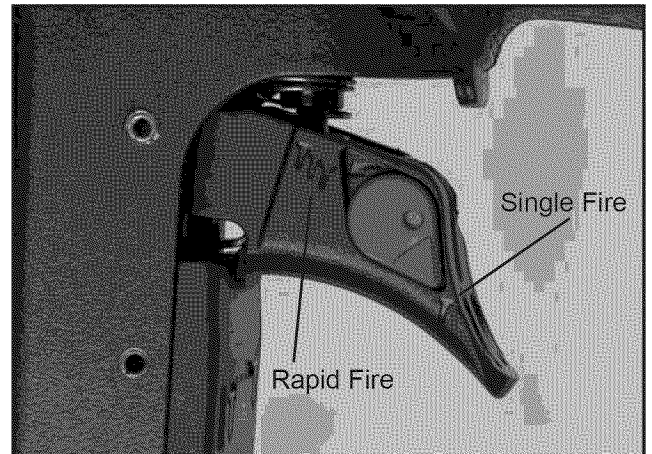

Figure 7—Push and Rotate Switch (pushing from the backside) to Select Operation Mode
- The tool is equipped with a rotating switch that can be set to rapid-fire or single-fire mode (See Figure 7). When the switch is set to single-fire mode, the tool will not drive a second fastener until the trigger is fully released and pulled again.